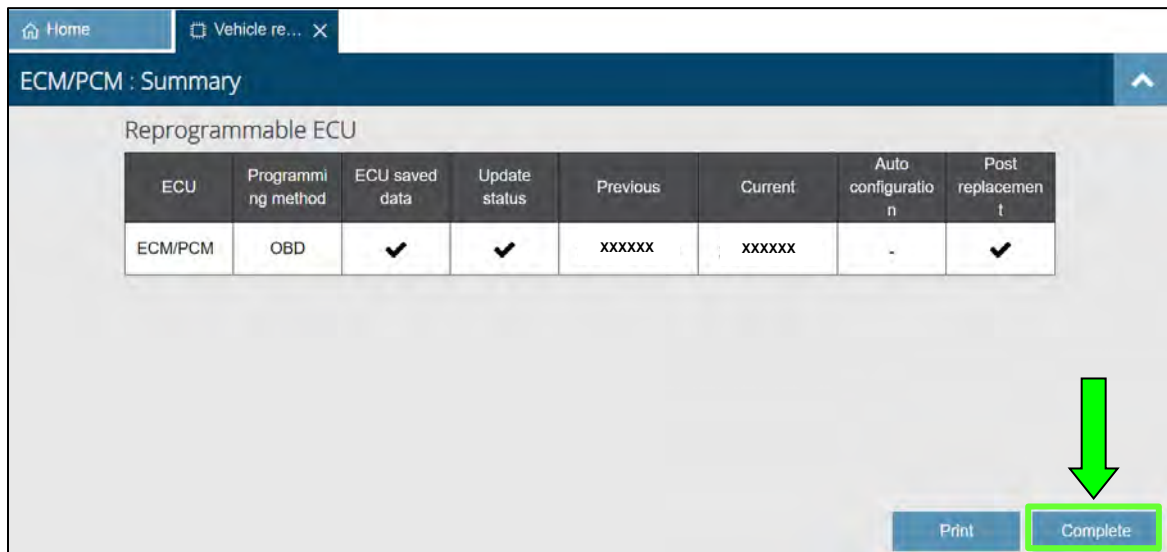

Figure 31
34. Print a copy of Figure 31, and then attach it to the repair order.